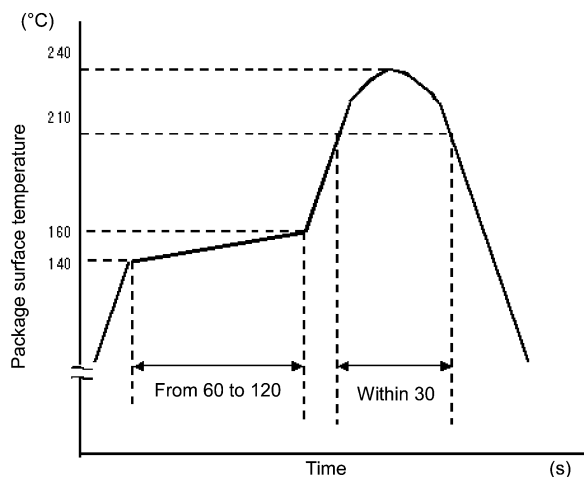

Fig. 13.1.1 An Example of a Temperature Profile When Sn-Pb Eutectic Solder Is Used
- When using soldering reflow (See Fig. 13.1.1 and 13.1.2)